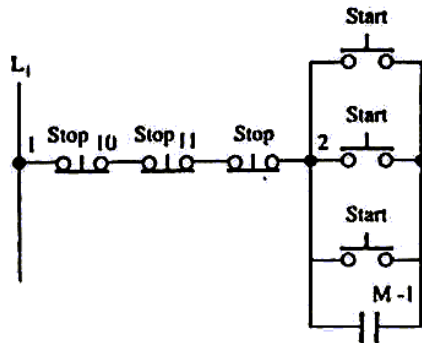

Fig. 31 Multiple Start/Stop control.
19. Multiple-station and alternate control (Fig.31)